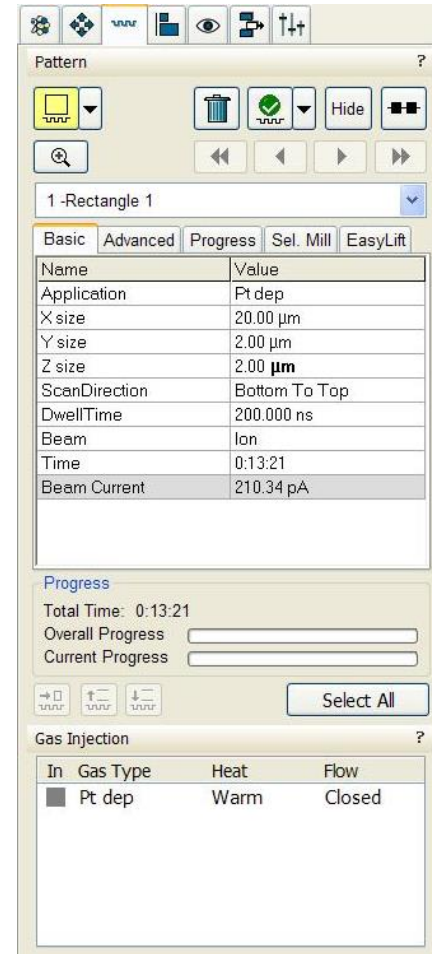

Figure 13
3. Draw rectangular pattern in Ebeam quadrant and choose **Pt e-dep surface in Pattern>Basic>Application** (Figure 13), pattern should be in green color, make sure the pattern is slightly wider than area of interest. Choose depth to be 0.1 um. Make sure the GIS is in **Warm** status (bottom panel in Figure 13).
2. Draw rectangular pattern in Ibeam quadrant and choose **Pt Dep** in **Pattern>Basic>Application** (Figure 13), pattern should be in green color, make sure the pattern is slightly smaller than the existing Pt layer. Choose the depth to be 1-2 μm .